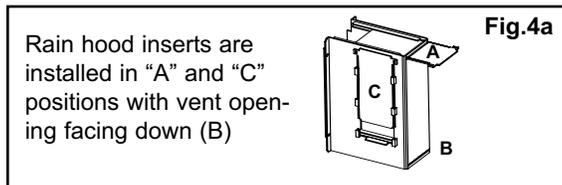

Fig.4a
- For vertical window kit applications (*including patio*) refer to figure 4a for correct Rain Hood insert positioning.